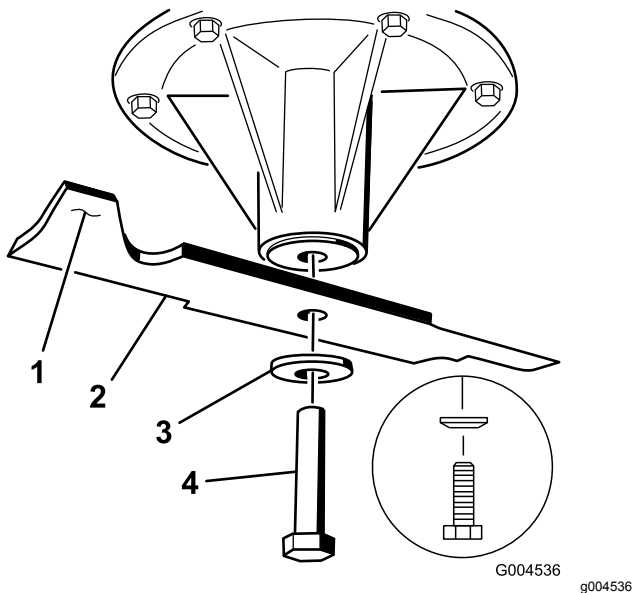

Figure 93
2. Remove the blade bolt, curved washer, and blade from the spindle shaft (Figure 93).
3. If the blade is not balanced, file some metal off the end of the sail area only (Figure 93).